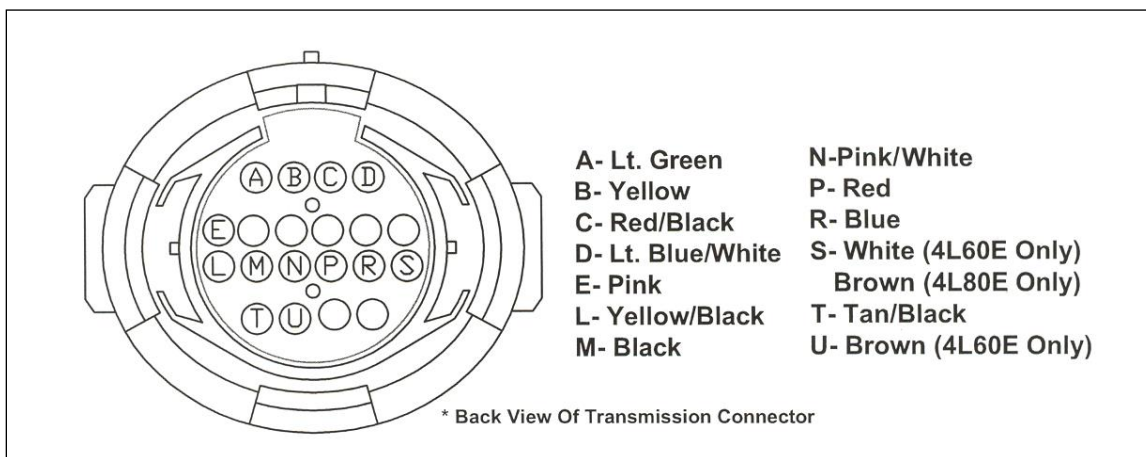
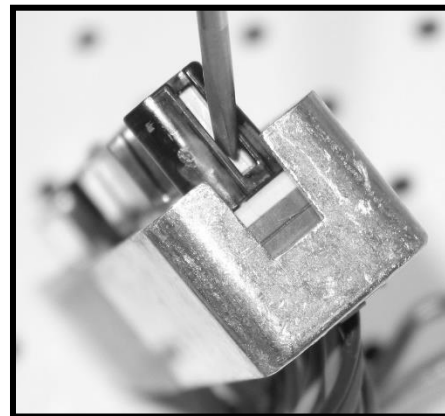

Figure 6.24 Transmission Connector Pin Out
Figure 6.25 ECM Terminal Lock
Harness numbers 60508 and 60509 have the transmission connector pre terminated to allow use of a 4L60E transmission. In applications where a 4L80e is to be used, follow this procedure to change your transmission connector to ensure all functions of the transmission work properly. See Figure 6.24 for repinning the transmission connector. The supplied input speed sensor pigtail from the parts kit will also need to be added to the ECM/ harness. See Figures 6.25 & 6.26 for Input Speed Sensor add on.
B. Using a small screw driver, press the locking tang on one side of the terminal lock and pull the lock away from the connector. Once one side is done, do the other side as well to completely remove the lock from the connector. You only need to remove the lock from side of the connector with pins 22 and 23. See Figure 6.25